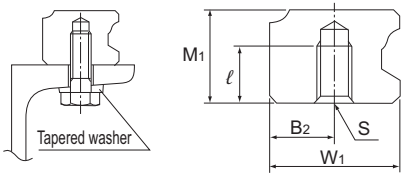

Fig.2
- (1) Determine the bolt length so that a clearance of 2 to 3 mm is secured between the bolt end and the bottom of the tap (effective tap depth).
- (2) As shown in Fig.2, a tapered washer is also available that allows GSR to be mounted on a section steel.
- (3) For model number coding, see **A1-276** to **A1-277**.